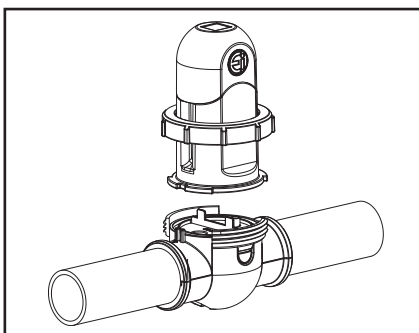

Figure 27. Remove the Cell
6. Remove the cell (see Figure 27).